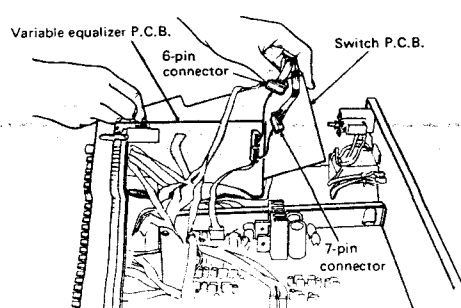

Fig. 6
4. Remove the 6-pin [terminals (43) ~ (48)] and 7-pin [terminals (37) ~ (42)] connectors from the variable equalizer P.C.B. and then remove the switch P.C.B. as in Fig. 6.